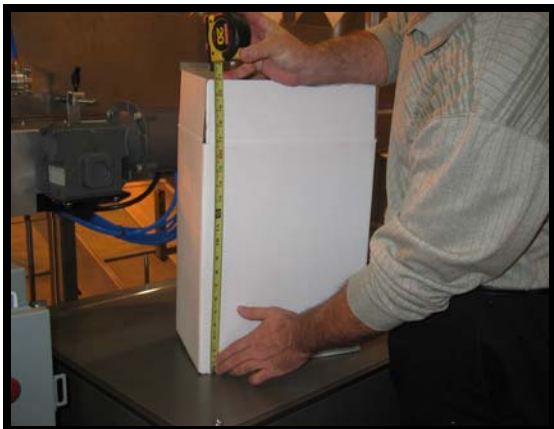

Figure 15. Measure height (minus bottom flaps)
1. Measure the width and height of the case to be erected. (Height equal to height with the top flap up, top flap only, see Figure 15). Use the measuring ruler on the machine for easy reference.